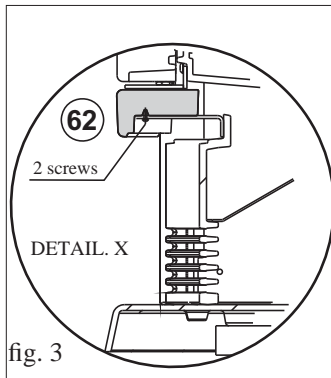

fig. 3
- Use the supplied Allen key to loosen the screws that hold the cast iron lower front grill (4) in place and remove it.
- Position the front panel (62) and use an Allen key to fasten it in place using the 2 supplied M6x25 screws as indicated in detail “X” (fig. 3).